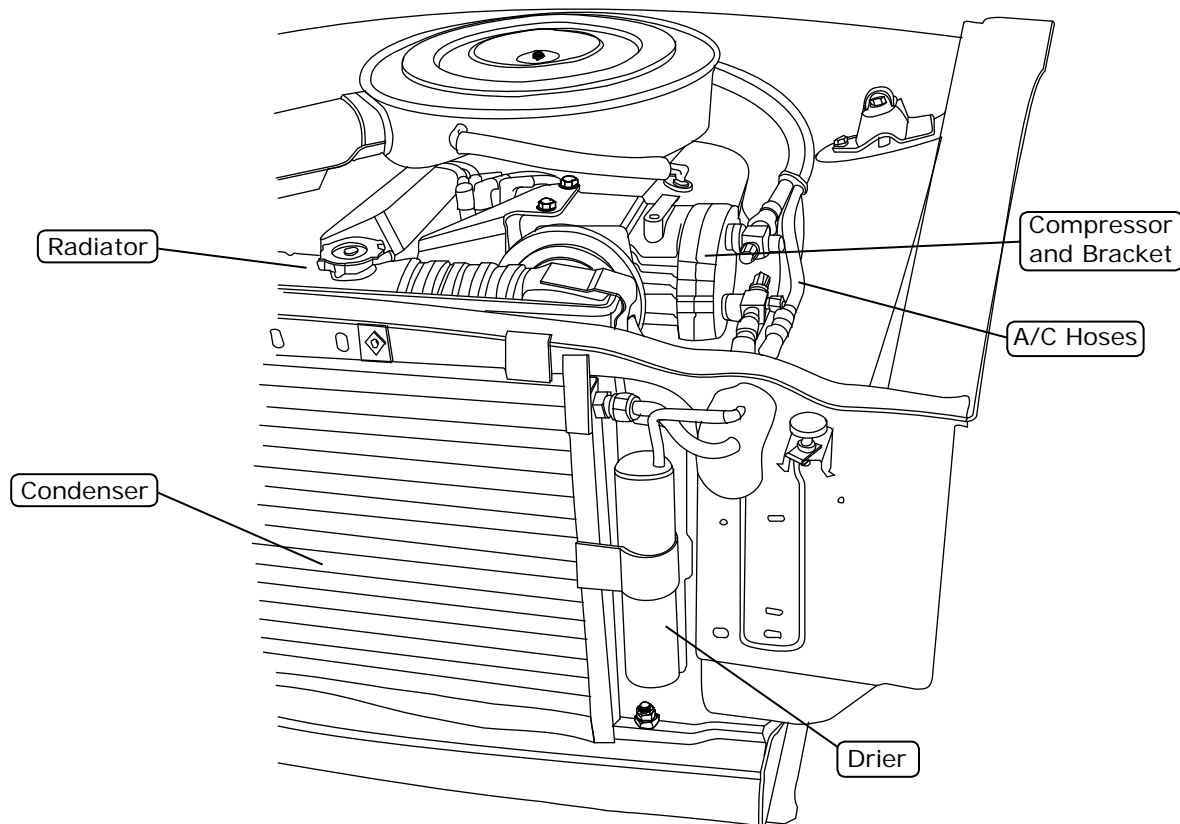

Figure 1
6. Remove the OEM condenser and drier (discard) (See Figure 1, below).
7. Remove the OEM compressor and bracket (discard) (See Figure 1, below).
8. Remove the OEM heater & A/C hoses (discard) (See Figure 1, below).